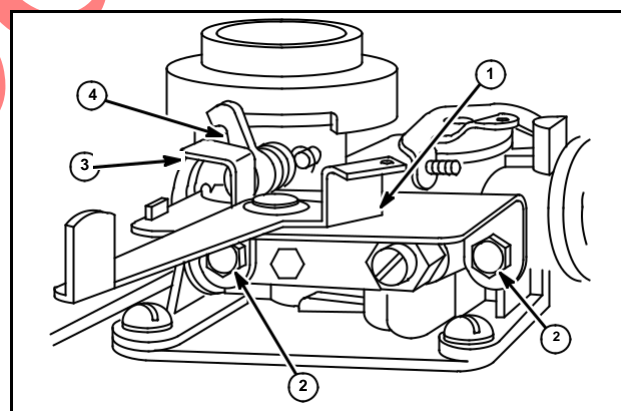

Fig. 56
Manual or remote control for choke and stop is done by a lever on control plate mounted to carburetor by two screws (2) Fig. 56. Lever for remote control has a loose fit; for manual control, a friction fit.